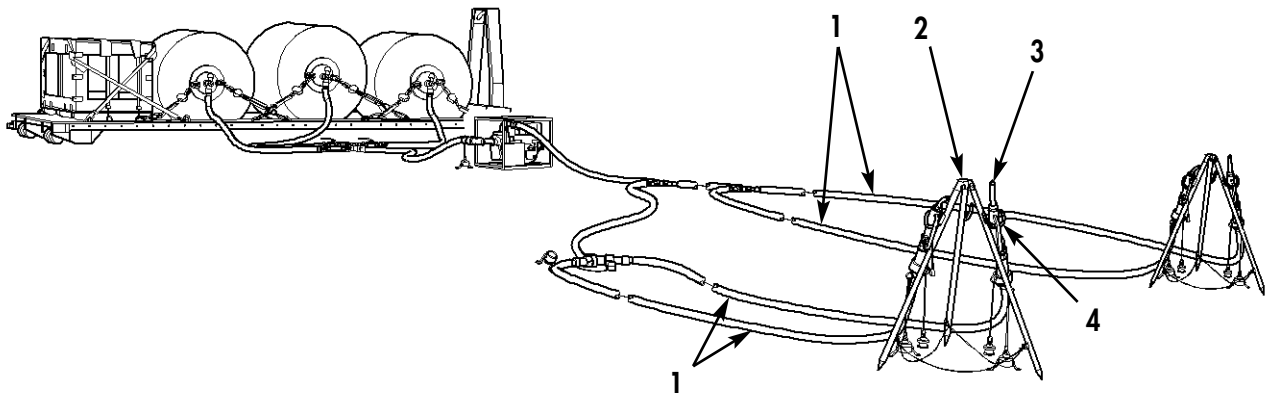

Figure 8. Hose Connections to Nozzles.
18. Remove four plugs and caps, and connect four nozzle assemblies (Figure 8, Item 3) to four 1.5 in. (38 mm) DIA x 25 ft (7.6 m) long hoses (Figure 8, Item 1).
19. Set up nozzle stand assembly (Figure 8, Item 2), and secure two nozzle assemblies (Figure 8, Item 3) to hooks (Figure 8, Item 4) on stand assembly (Figure 8, Item 2) at two distribution points.